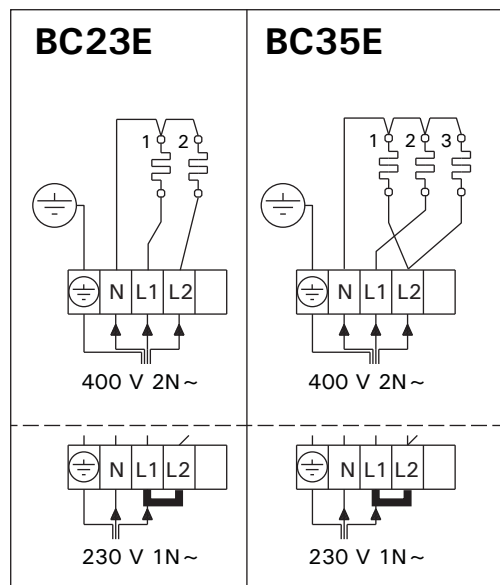

Figure 10. *Electrical connections of heater BC-E*
- In addition to supply connectors, the BC heaters are equipped with a connector (P), which makes the control of the electric heating possible (figure 10). Voltage control is transmitted from the heater when it is switched on. The control cable for electrical heating is brought directly into the junction box of the heater, and from there to the terminal block of the heater along a rubber cable with the same cross-section area as that of the connecting cable.